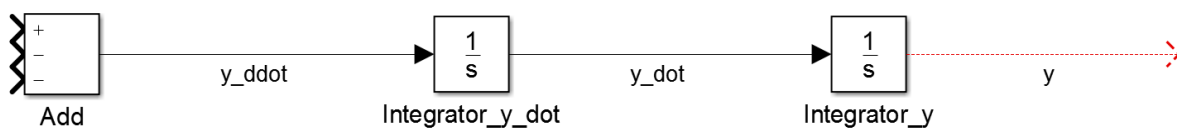

Figure 1-1: Integrator chain for PT2 exercise
- (4) Connect the blocks to obtain the diagram as shown in Figure 1-1. Rename the signals accordingly to `y_ddot`, `y_dot`, and `y`, by double clicking on the signal and typing the name.